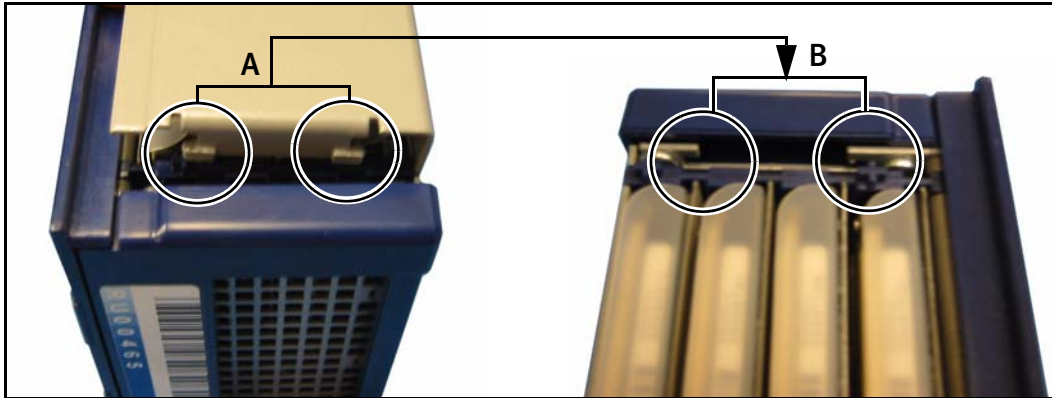

Figure 3-21 The tabs on the side panel (A) match the slots inside the media pack (B).
- Slide the side panel's metal tabs into the media pack's slots (Figure 3-21).